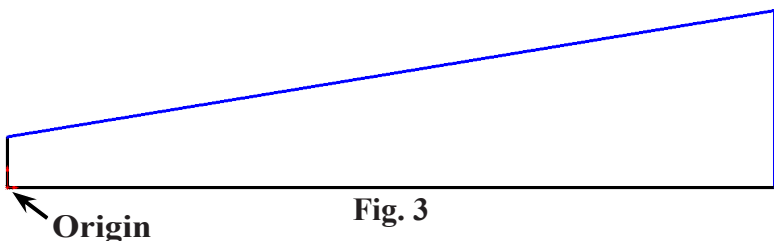

Fig. 3
Step 2. Click **Line**  (L) on the Sketch toolbar.
Step 3. Starting at the Origin  sketch the lines in **Fig. 3**. Use the inferencing line, the dotted line that appears when you sketch the lines to keep the side lines vertical and the bottom line horizontal. Do not add any extra lines. If you make a mistake, use Undo, **Ctrl-Z**.